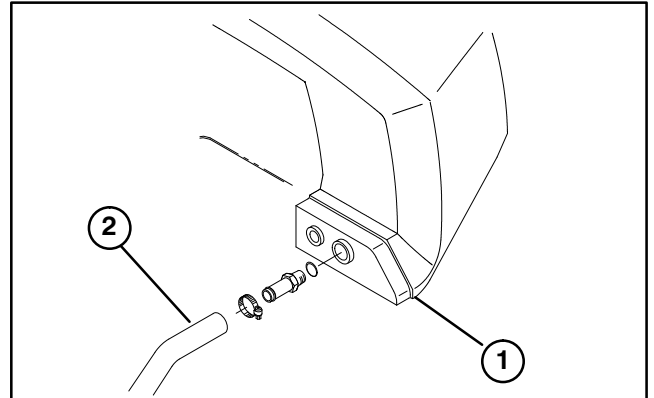

Figure 2
3. On other end of hose, remove clamp and fitting from reservoir (Fig. 2). Discard hose and fitting.